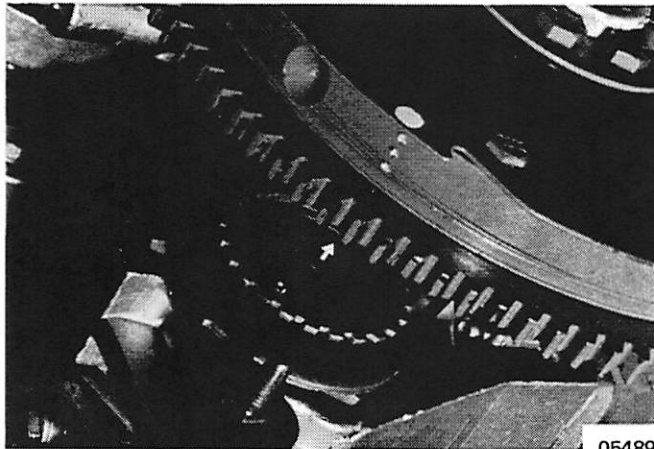

Figure 1. Alignment Marks
1. Rotate flywheel until "alignment mark" (a white dot and punch marks) is aligned with arrow on distributor pulley (not plate). (Figure 1)